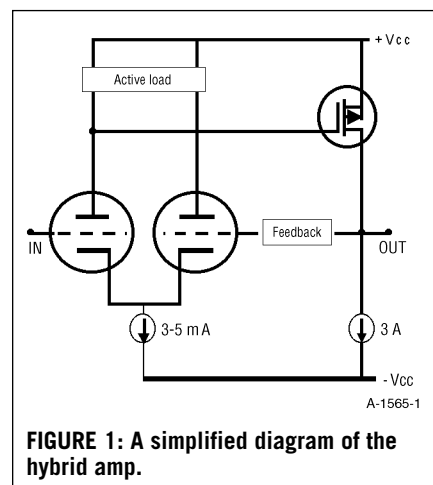
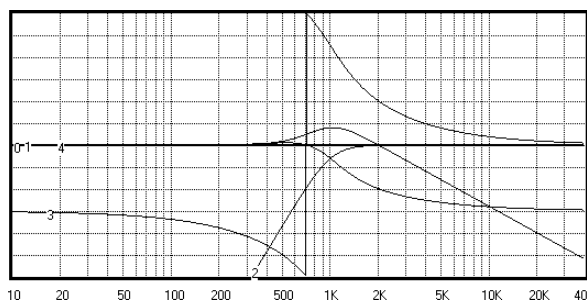

FIGURE 1: A simplified diagram of the hybrid amp.
FIGURE 2: Constant-voltage crossover HP and LP sections using a third-order Butterworth high-pass filter; scale: 5dB/division.
My intention in designing this hybrid amplifier (Fig. 1) was to combine the
Figure 1 shows the HP and LP filter-section response curves derived from equation (2) when a 1kHz, third-order Butterworth filter is selected for the low-pass section. The decibel scale is 5dB per division in Fig. 1. Observe that the HP response has a peak of 4dB at the LP -3dB point and that the HP section is down 3dB at approximately 350Hz. Figure 2 shows a similar result when the HP filter is a 1kHz, third-order
FIGURE 1: Constant-voltage crossover HP and LP sections using a third-order Butterworth low-pass filter; 0—HP amplitude response, 1—HP phase response; scale: 5dB/division.